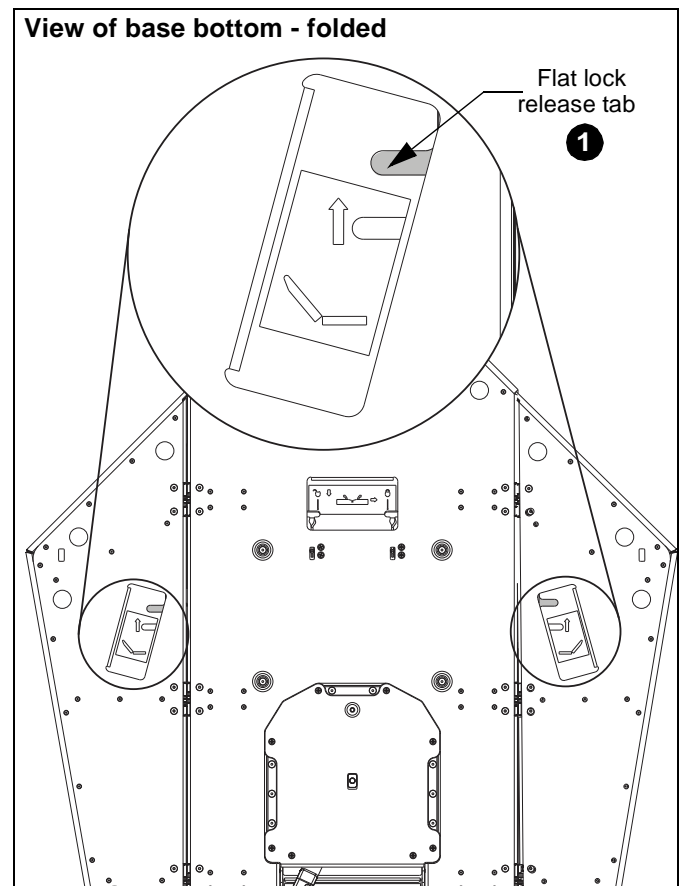

Figure 16
1. Turn base over and unlock sides of base by lifting the flat lock release tab on each side, and moving the sides to a folded position. (See Figure 16)